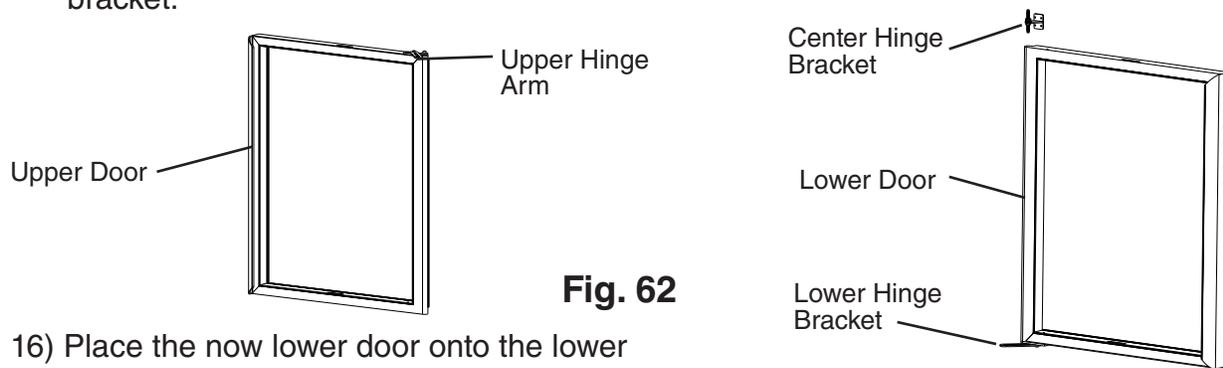

Fig. 62
- 14) Rotate the upper door (making it the lower door) 180 degrees and place the center hinge bracket lower pin into the top of the now lower door. See Fig. 62